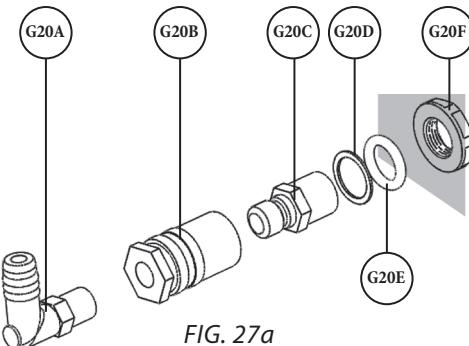

FIG. 27a
- 27** Install the Quick-Disconnect Kit (G20) onto the pre-drilled hole near the bottom section of the Drum (J1) [FIG. 27a].